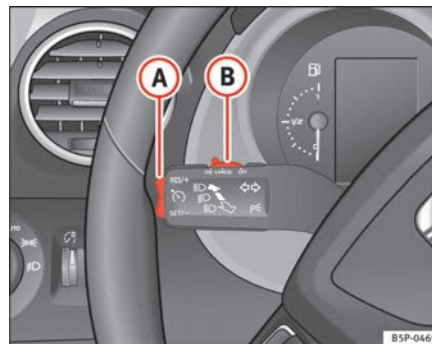

Fig. 148 Indicator and main beam headlight lever: switch and rocker switch for the cruise control
- Press the lower part **SET/-** of the rocker switch ⇒ fig. 148 (A) once briefly when you have reached the speed you wish to set.